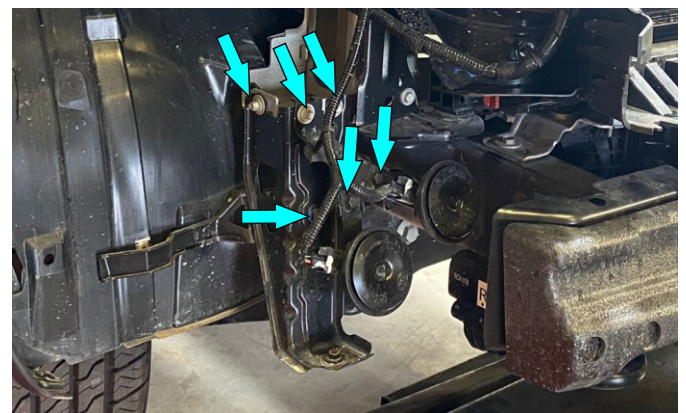

Fig.18
18. Unscrew factory bolts and remove bracket on both sides of the vehicle (fig.18).